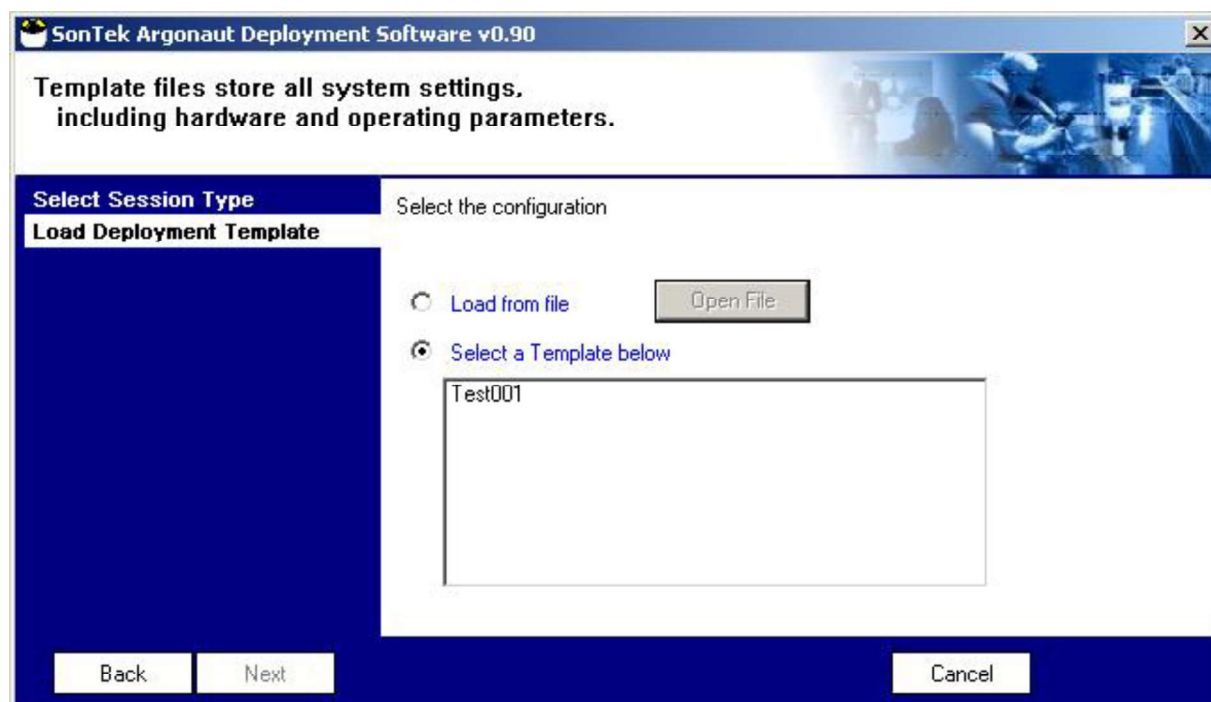

Figure 5-29. Deployment Software: Load Template File
- If you are planning a deployment from a template file, select **Plan a deployment**. The next screen is shown in Figure 5-29, where you will be prompted to select a template file.